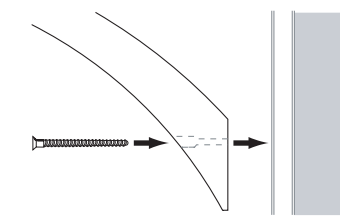

FIG. 6.1
- Install angle bracket using #8 3" screw. Use supplied plastic wall anchors if no stud is available (Fig. 6.1).